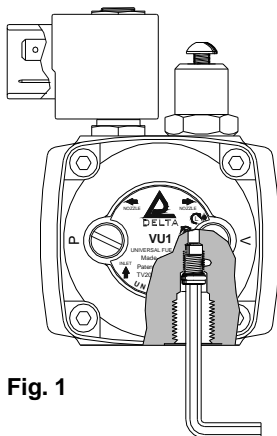

Fig. 1
- Using a 4 mm Allen key, unscrew the bypass plug from the return port (Fig. 1).